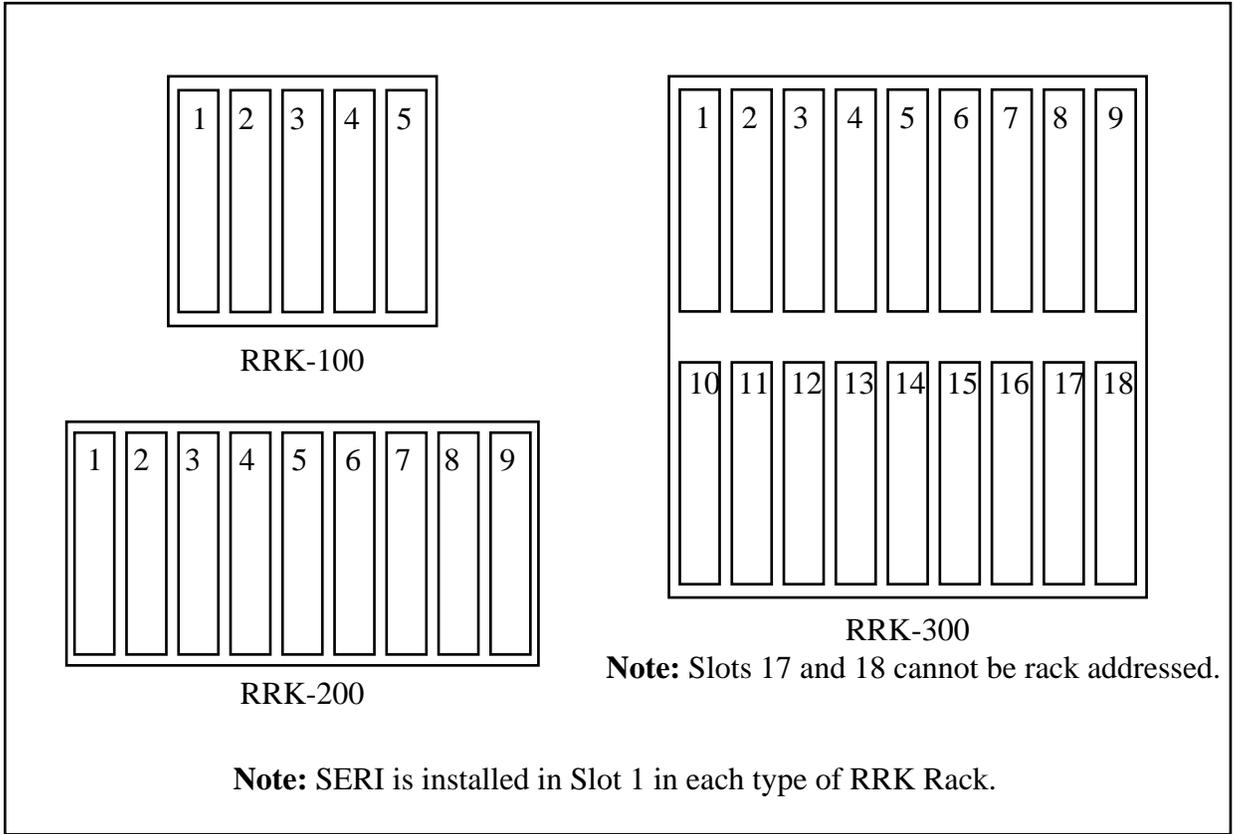

Figure 2-4 RRK Register Racks
- 2 Mount the SERI in Register Slot 1 (CPU slot) in the rack. (See Figures 2-4 and 2-5 for supported RRK and HRK racks.) Secure the screw at the bottom of the module.